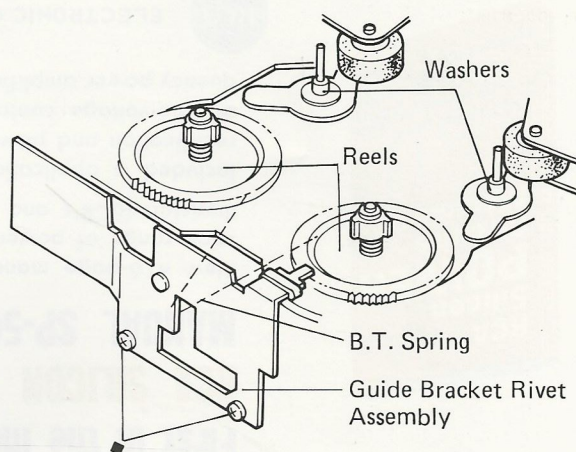

Figure 7
NOTE: The washers as shown in Figure 7 are taken off together with the flywheel, be sure not to lose them.
- (3) Remove two screws marked "■" to remove the guide bracket rivet as shown in Figure 7.
- (4) Remove B.T. spring to take off the reel bracket as shown in Figure 7.